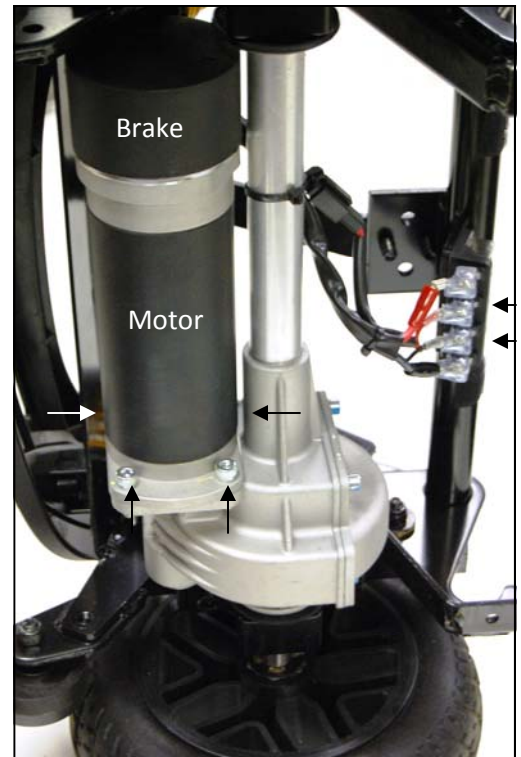

Figure 40. Motor/Brake Removal
8. Remove the (2) Phillips head screws connecting the rear intermediate connector to the frame.
10. Remove the (4) bolts that fasten the motor/brake to the transaxle. **See figure 40.**